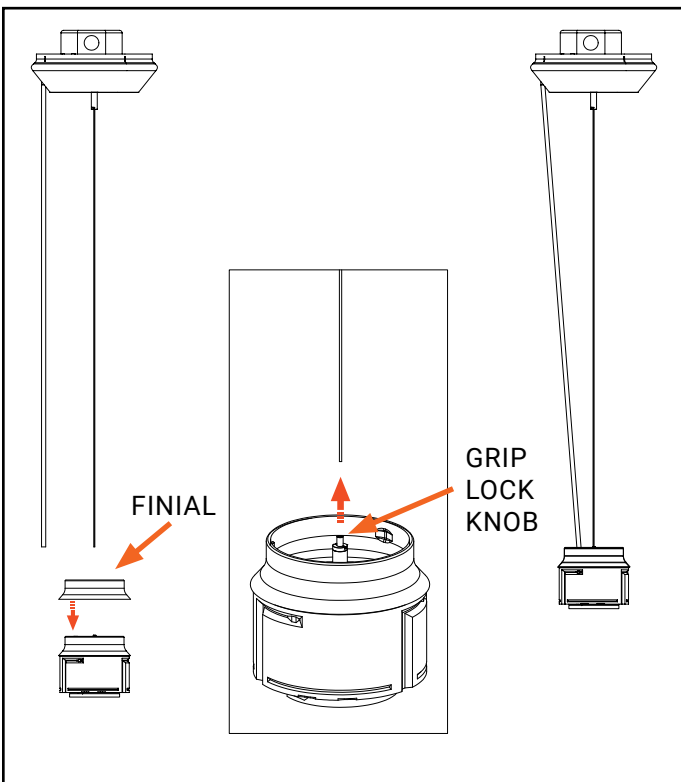

Figure 12
14. Place finial on top of light engine assembly. Lift the light engine assembly and insert the Aircraft Cable (L) in the grip lock by pushing the Grip lock knob. (Figure 12)